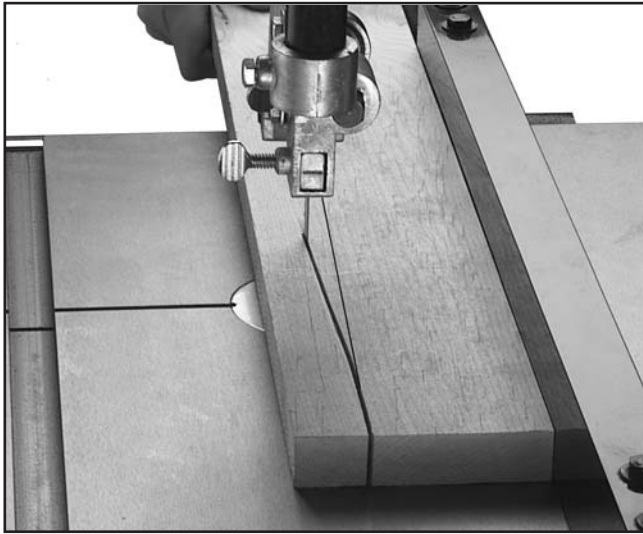

Figure 36. Blade leading away from line of cut.
Most bandsaw blades will not appear to cut straight when using the fence or miter gauge. This is called “lead.” (See **Figure 36**.) Lead occurs (1) if the blade tension is incorrect, (2) if the teeth are dull on one side, or (3) if the teeth are set heavier on one side of the blade than the other.